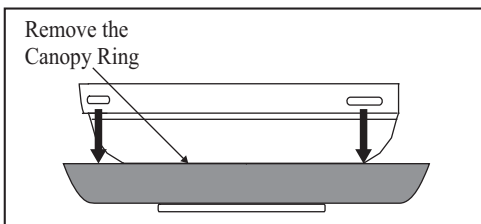

Figure 5
1. Remove the canopy ring from the canopy. (Figure 5).